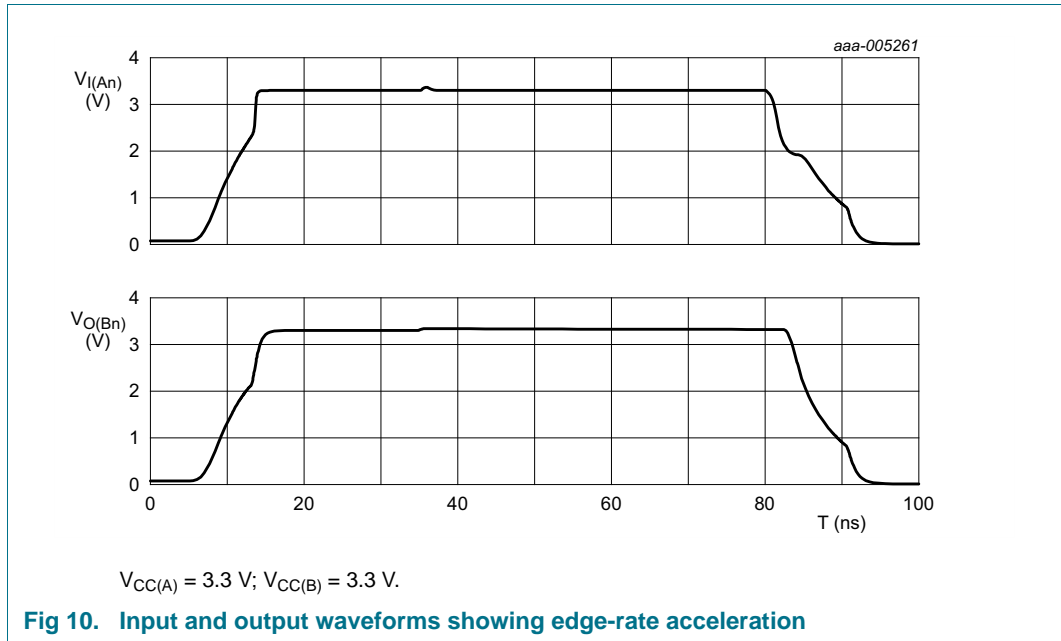

Fig 10. Input and output waveforms showing edge-rate acceleration
2. An output edge-rate accelerator that detects and accelerates rising and falling edges on the I/O pins (see Figure 10).